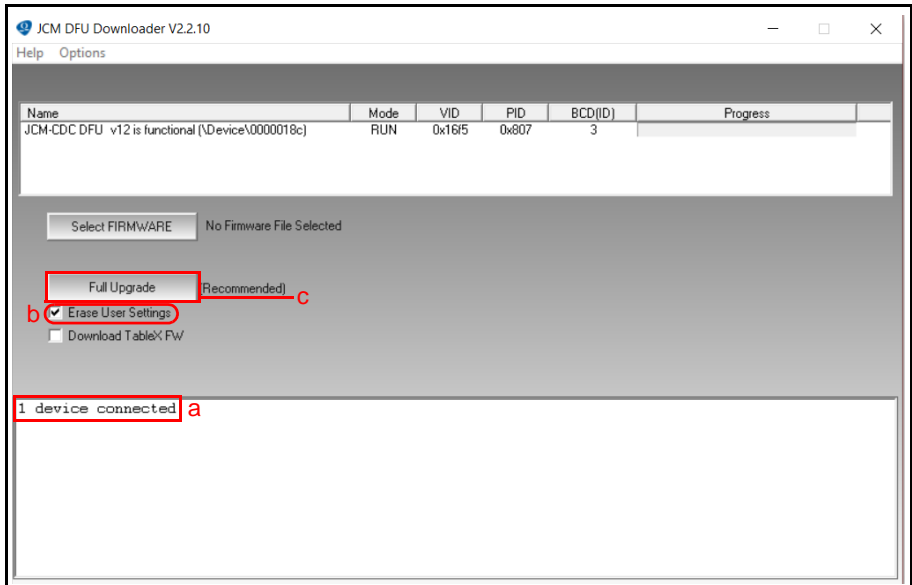

Figure 12 JCM DFU Downloader Application UI
The Printer status will display as 1 device connected (Figure 12 a).
7. Ensure the Erase User Settings check box is selected (Figure 12 b).
8. Click on Full Upgrade (refer to Figure 12 c on page 14).